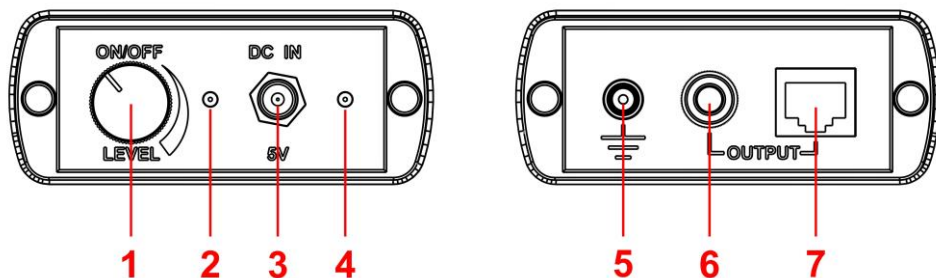

fig.3
The generator is a functionally complete self-powered device (battery). The appearance of the generator is shown in fig.3. The generator is used when cable tracing («Cable locator» mode).
The numbers in fig.3 denote:
The generator power supply is controlled by two LEDs (Fig. 3, p. 2 and p. 4). When the generator is turned on, the red LED lights up (Fig. 3, p. 2). When the battery is low, the red LED flashes. The generator battery is charged in the off state using a charger (Fig. 1, p. 4), while the green LED is lit (Fig. 3, p. 4), which goes out after charging. Full charge time is not more than 2 hours.
The generator is equipped with two output connectors. If the line is equipped with plugs or sockets of the RJ standard, an RJ45 socket is used (fig.3, pos.7). The test signal fed to the contact #4 of that socket.
If the cable to be tested is not equipped with connectors, use the socket (fig.3, pos.6) and the probe with a «crocodile type» clip.
3. Turn on the generator by the switch (fig.3, pos.1) and set it to the middle position.
8. As the distance from the generator connection point increases, the test signal level may decrease due to attenuation. In this case, it is necessary to increase the level of the generator signal (fig.3, pos.1) or lower the discrimination threshold (fig.2, pos.1).